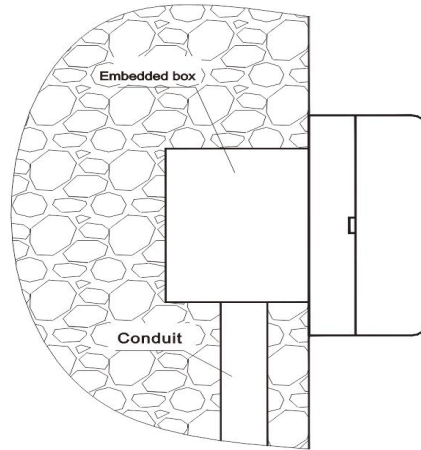
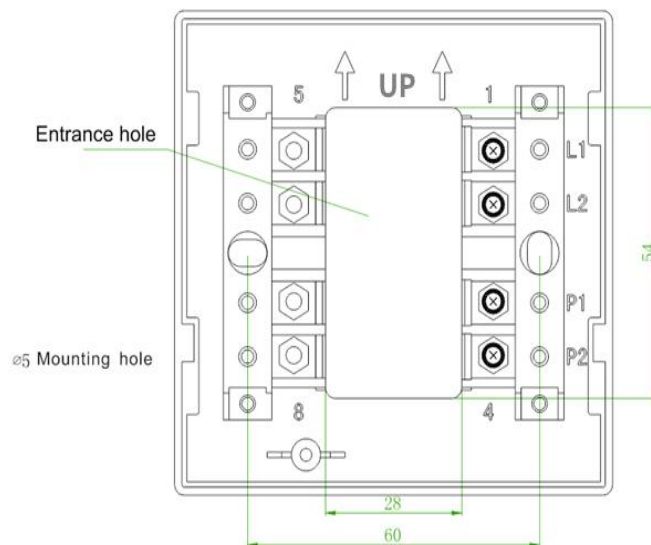

Fig.2
Fig. 3
- The MCP is mounted inside the wall. Unplug the point, put cables into the base's entrance hole and connect corresponding terminals. And then plug the point (shown in Fig. 2). The mounting hole distance is 60mm (shown in Fig. 3).
- Terminals are shown in Fig. 3.